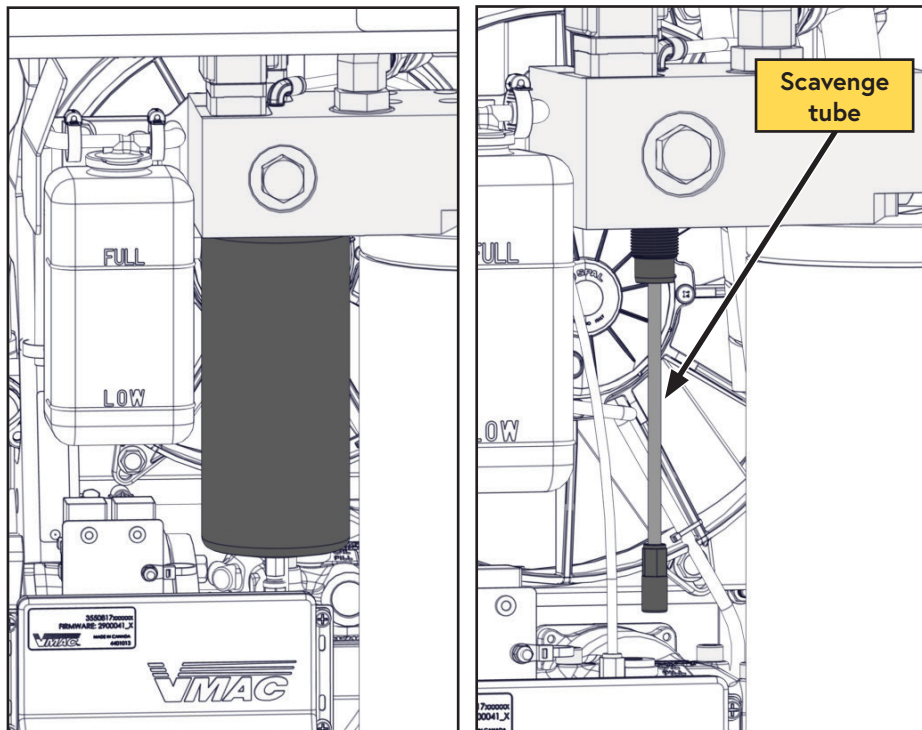

Figure 34 — Remove the coalescing filter
- ☐ Remove the coalescing filter, being careful to avoid damaging the scavenge tube or screen that is inside the filter (Figure 34).